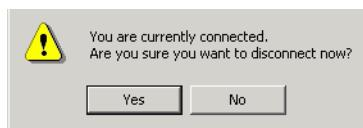

Figure 12 Disconnect Now dialog box
11. Select **File > Exit** close the HyperTerminal application. A message box is displayed (Figure 12).